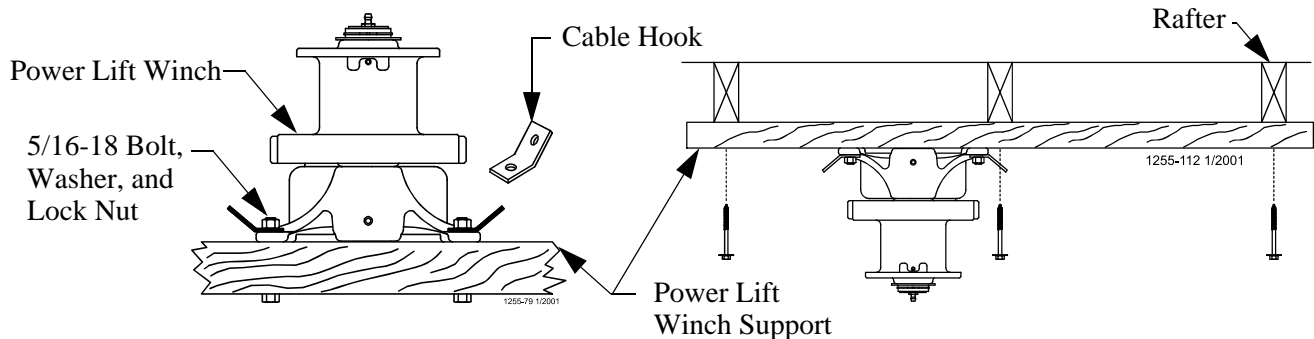

Figure 12. Mounting the Power Lift Winch
2. Install a cable hook, supplied in hardware package, between the mounting bolt and power winch frame as shown in **Figure 12**.
3. Attach the power lift winch support (with the winch secured) to the ceiling at the center of the feeder line, see **Figure 12**. The winch support must be parallel to the feeder line and must span at least three (3) rafters in a wood frame house and two (2) rafters in a steel frame house.